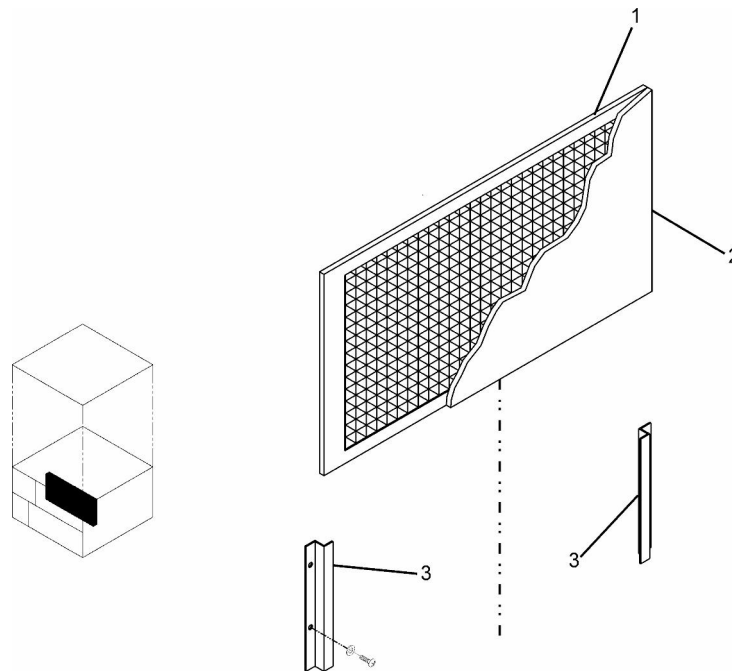

Figure 1. Mist Eliminator
Slide mist eliminator (1) and filter media (2) up and out of mist eliminator holder brackets (3). See figure 1.